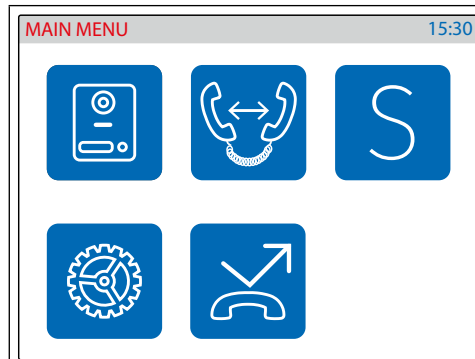
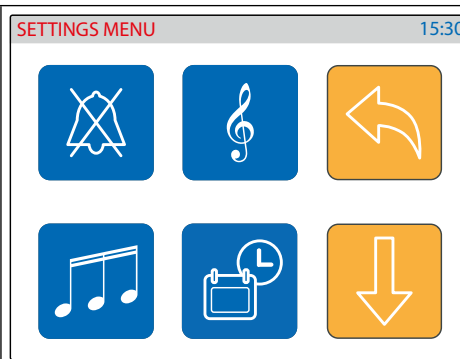

Fig. 4 Main menu
Fig. 5 Settings menu 1/2
3. Apply the **(Y)** silicon sealant on top of each module as shown in **Fig. 4**;
- Programmable settings are: Privacy duration, Melody, Number of Rings and Date & Time (**Fig. 5**)
If the screen is black, first tap on it to see the main menu (**Fig. 4**) then tap on the gear icon to open the settings menu (**Fig. 5**)
- Tap on the privacy icon (**Fig. 5 on page 18**).
- Tap on the melody icon (**Fig. 5 on page 18**), the current melody is shown, tap on a melody to listen to it (**Fig. 9**) then tap on the tick button to confirm the selected melody.
- Tap on the rings icon (**Fig. 5 on page 18**).
- Tap on the date & time icon (**Fig. 5 on page 18**).